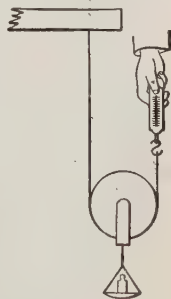

FIGURE 562.
**EXPERIMENT 144.** — The total load of the single movable pulley in Figure 562 includes the weight of the pan and the weight of the pulley block. Find these two weights. *What is the total load when a 100-gram weight is put on the pan?*